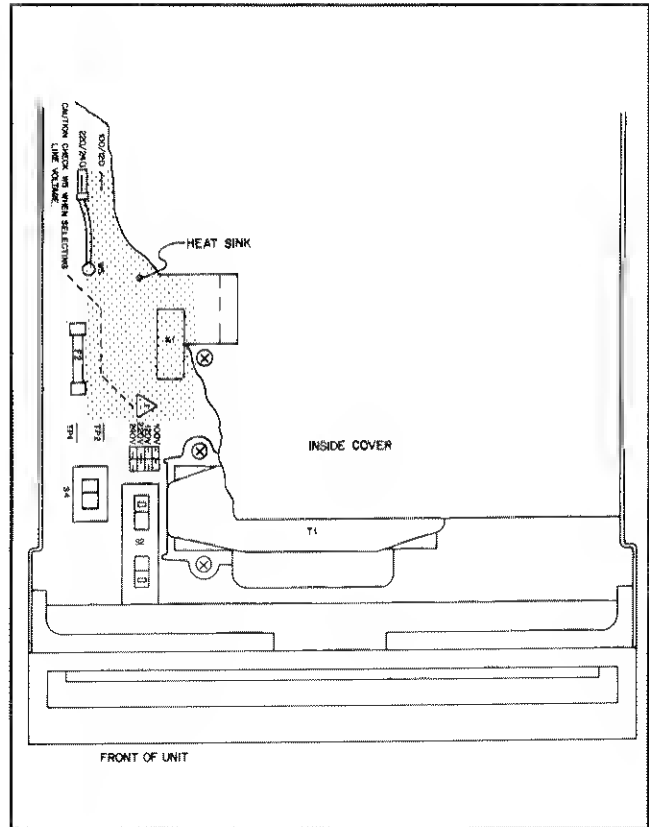

Figure 2-3. Line Voltage Selection Components
- b. The line voltage select switch is located in the front left corner of the instrument (see Figure 2-3). Use a small-blade screwdriver to set the two switch sections to match the pattern silkscreened on p.c. main board as shown in Figure 2-3. For example, to set switches for 120 V operation (as illustrated), move forward switch section so that its white slot is toward front of instrument and move rearward switch section so its white slot is toward rear of instrument.